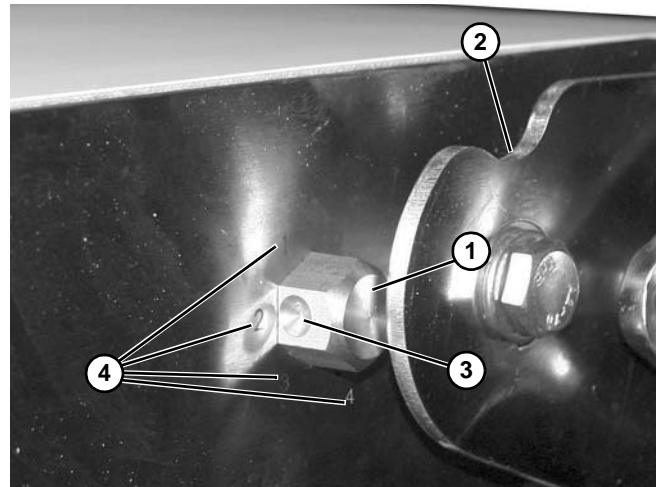

Figure 41
- Rotate idler end so that hex bar (Figure 41, item 1) fits into notched area (Figure 41, item 2).
- Adjust dimpled side (Figure 41, item 3) of hex bar into one of four locations (Figure 41, item 4) (labeled 1-4 on conveyor).
The elevation of change of tail is as follows (Figure 41):